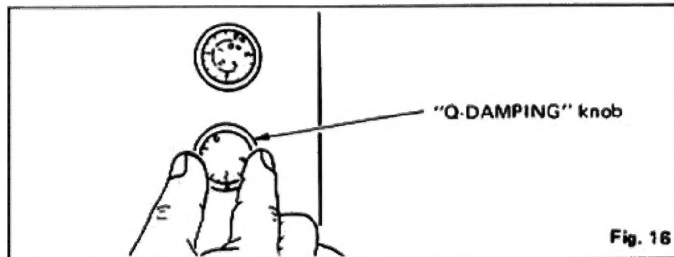

Fig. 16
3. Q-damping; Turn the "Q-DAMPING" knob to the same number as the "TRACKING FORCE" knob. (Fig. 16)